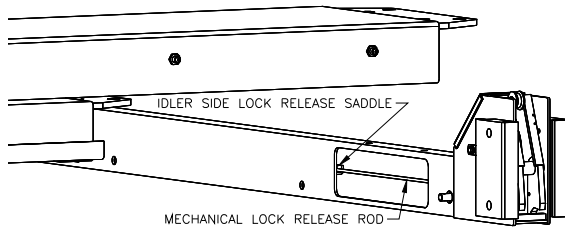

Fig 8 – Mechanical Lock Rod
- 10) Remove the four (4) cross beam sheaves (one sheave from each beam end). DO NOT REMOVE THE RUNWAY SHEAVE PINS.
- 11) Place the mechanical lock release rod into the saddles located on the inside of the cross beams, Fig 8.